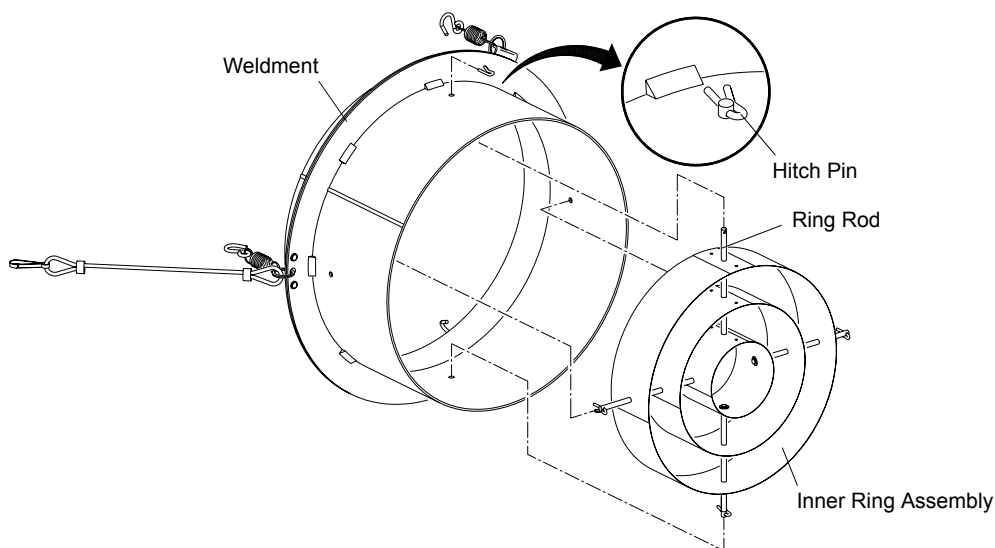

Figure 4-6: Removing Top Hat Inner Rings
- Step 1. At tophat/gelframe, remove four hitch pins that secure four ring rods to outer weldment (**Figure 4-6**).